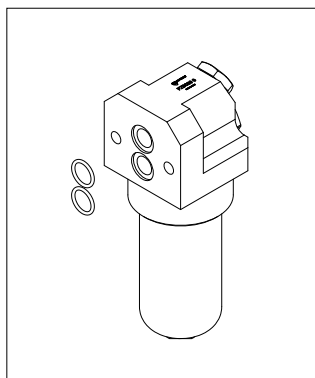

fig. 16
- (Fig. 16) Replace the O-rings of the manifold